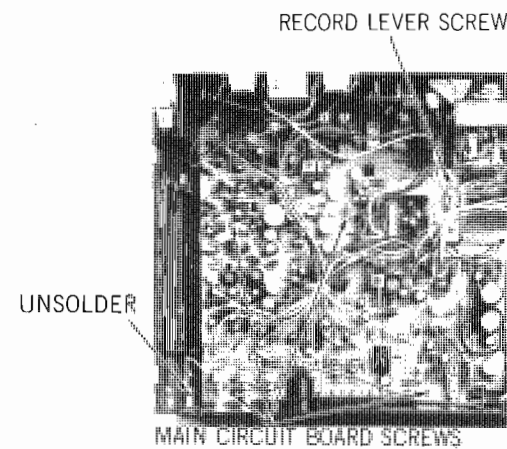

Figure 22
- 2) Remove one screw holding Record Lever as shown in Figure 22.
- 3) Remove four screws holding Main Circuit Board as shown in Figure 22.
- 4) Unsolder the point shown in Figure 22.